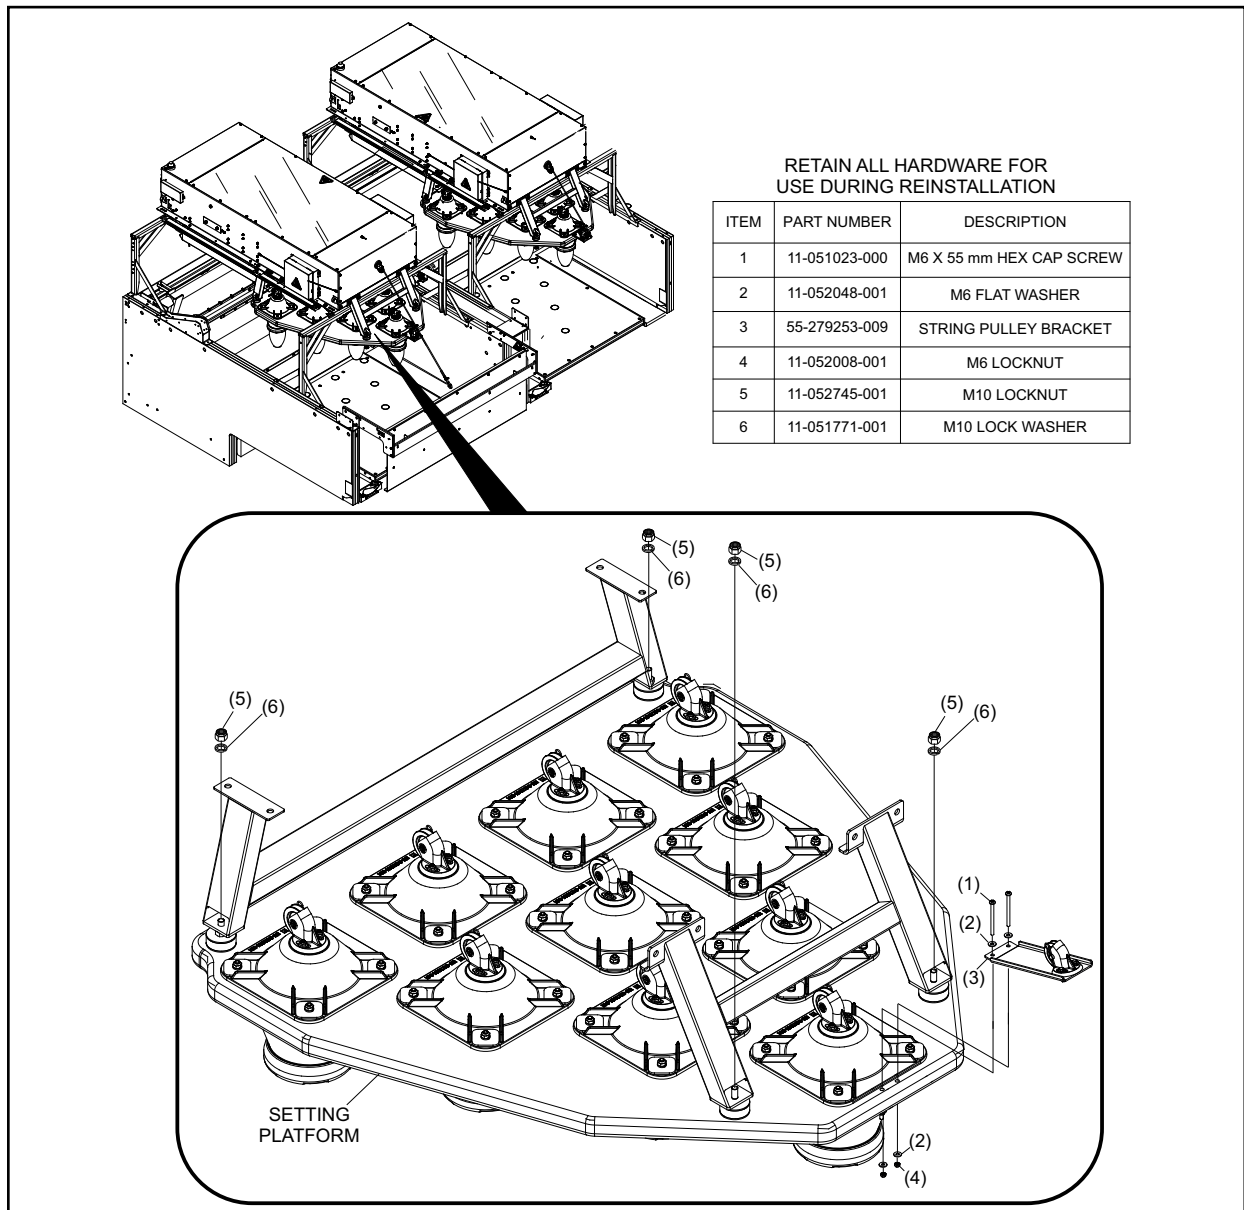

Figure 2. Remove Setting Platform
4. Disconnect the gate string carabiner from the gate. Remove the string pulley/bracket from the setting platform and the setting platform from the pinsetter main frame. Move the setting platform to a convenient work location. Refer to *Figure 2*.